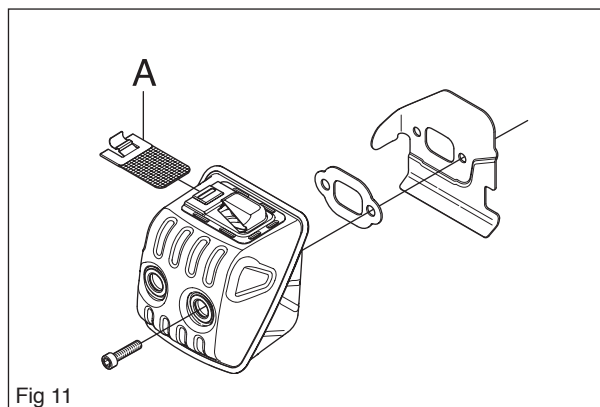

Fig 11
If the saw is fitted with a spark arrestor mesh (A) this must also be removed. If necessary, use the combination spanner to push down the plate edge and remove the spark arrestor mesh (see figure 11).